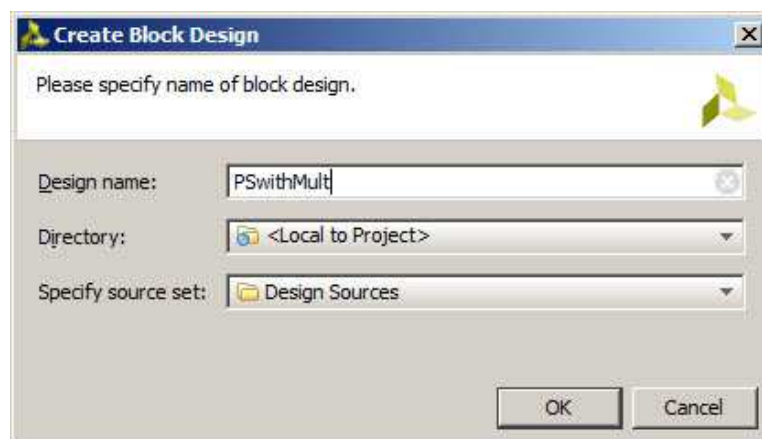

Figure 4: Create Block Design Dialog Box
2. In the **Create Block Design** popup menu, specify a name for your IP subsystem design as seen in **Figure 4**.